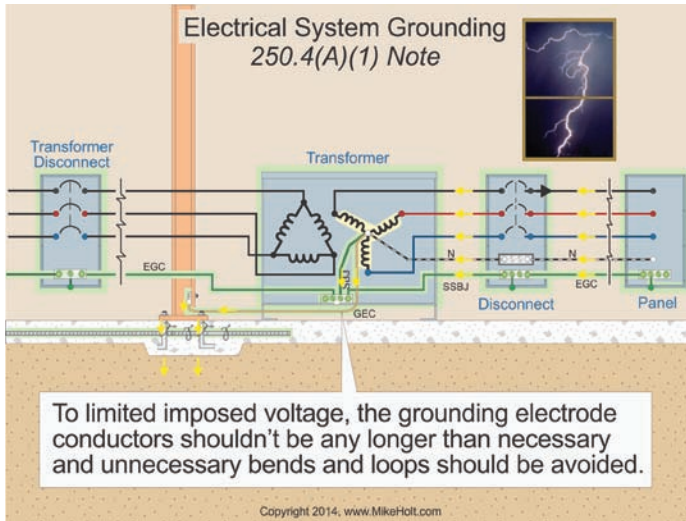

Figure 250-5
**Note:** To limit imposed voltage, the grounding electrode conductors shouldn't be any longer than necessary and unnecessary bends and loops should be avoided. Figure 250-5